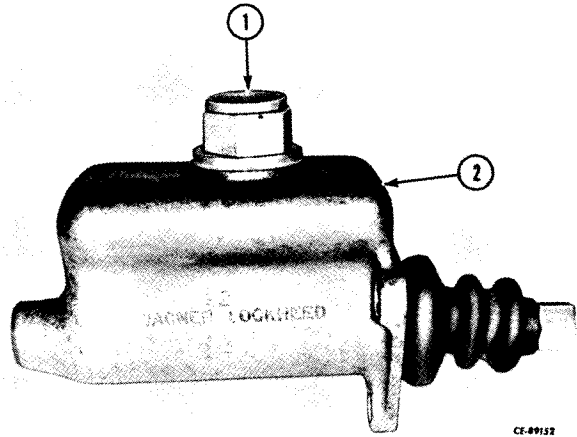

Figure 13-4
Remove filler cap (1, Fig. 13-4) from master cylinder (2). Drain all fluid.